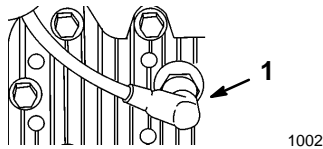

Figure 17
1. Stop the engine and pull the wire off of the spark plug (Fig. 17).
2. Pull the wire off of the spark plug (Fig. 17).
3. Pull the wire off of the spark plug (Fig. 17).
- Stop the engine and pull the wire off the spark plug (Fig. 17).
- Connect the spark plug wire (Fig. 17).
- C. If there are no signs of wear or dullness, return the mower to the upright position and replace the spark plug wire (Fig. 17).